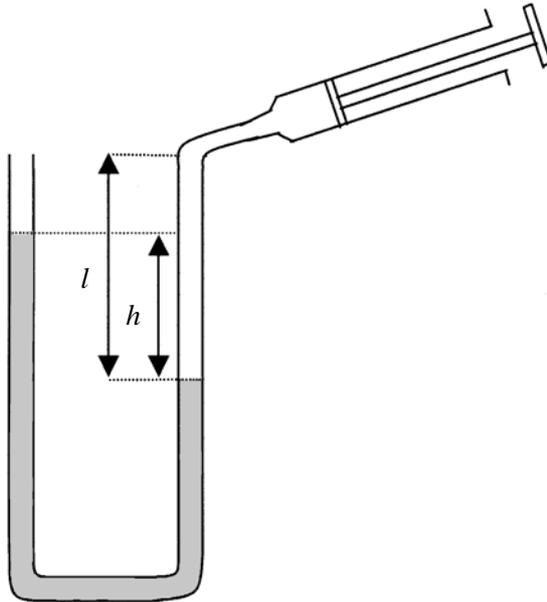

Figure 2
- (d) (i) Measure and record in a table a series of lengths l and the heights h corresponding to the different liquid levels in the tube as shown in **Figure 2**.